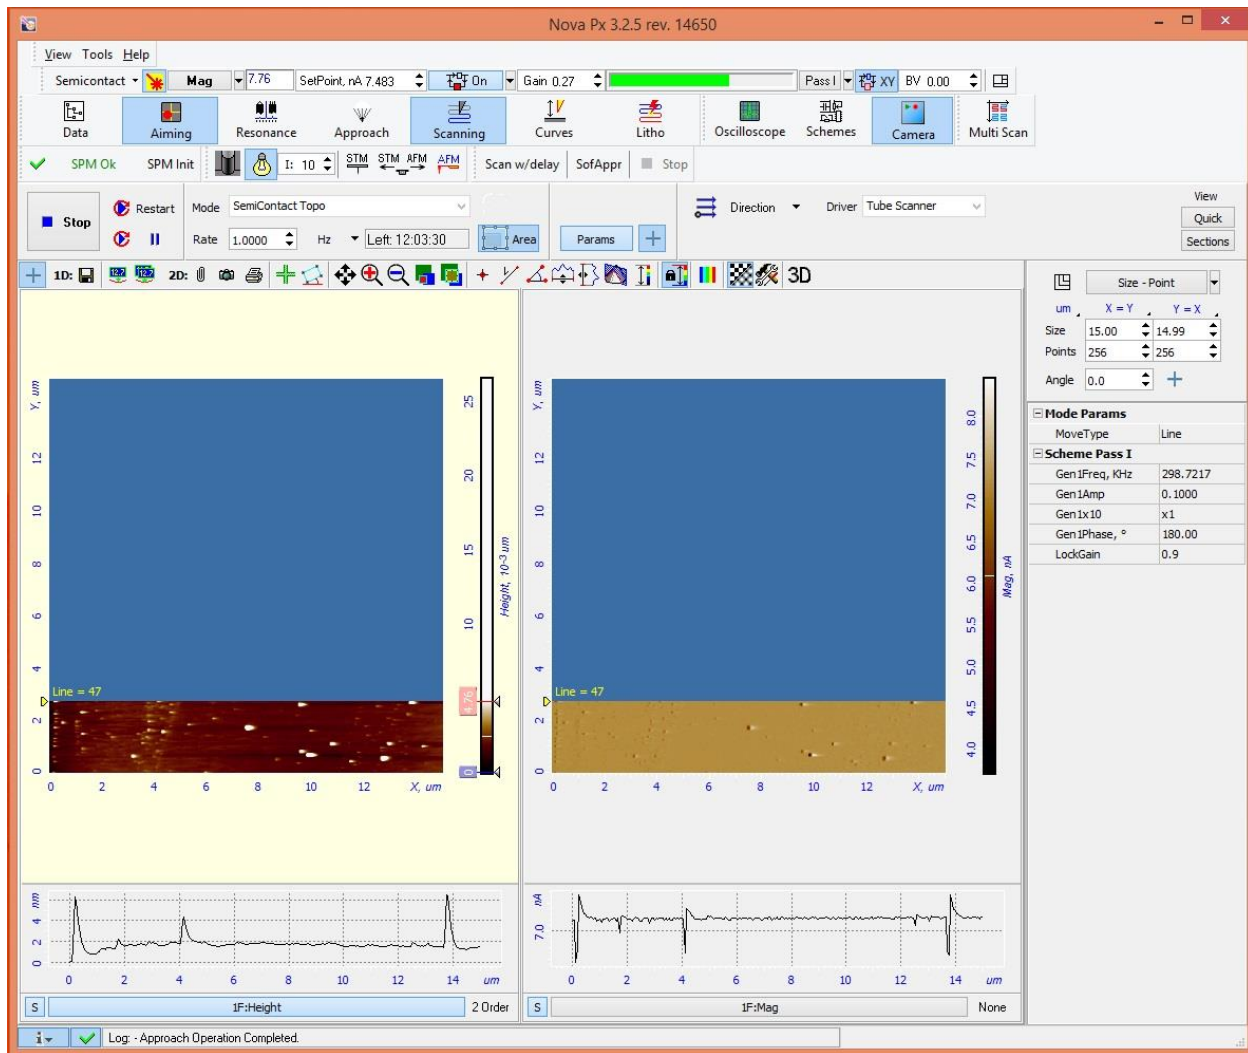

Figure 20: 2nd order tilt correction has been used to flatten cross section and remove gradient from scan image
- In Figure 20 a 2nd order correction has been applied and the gradient in the image is gone and the cross section is level.